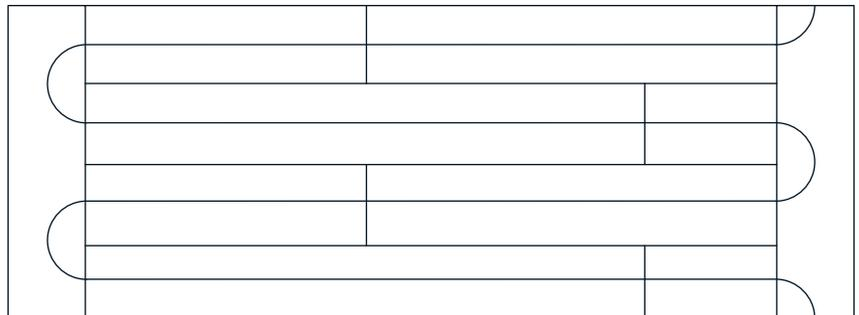

Figure 21: Correct panel placement for serpentine pattern
3. Place the return panels so they align with the grooves in the straight panels. Make sure to maintain a serpentine pattern for proper piping placement (see **Figures 21** and **22**).